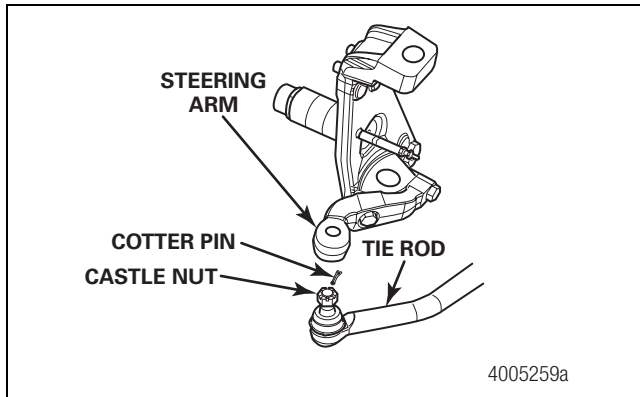

Figure 5.5
1. Remove the cotter pin and nut that secure the tie rod to the steering arm. Separate the tie rod from the steering arm. Figure 5.5.